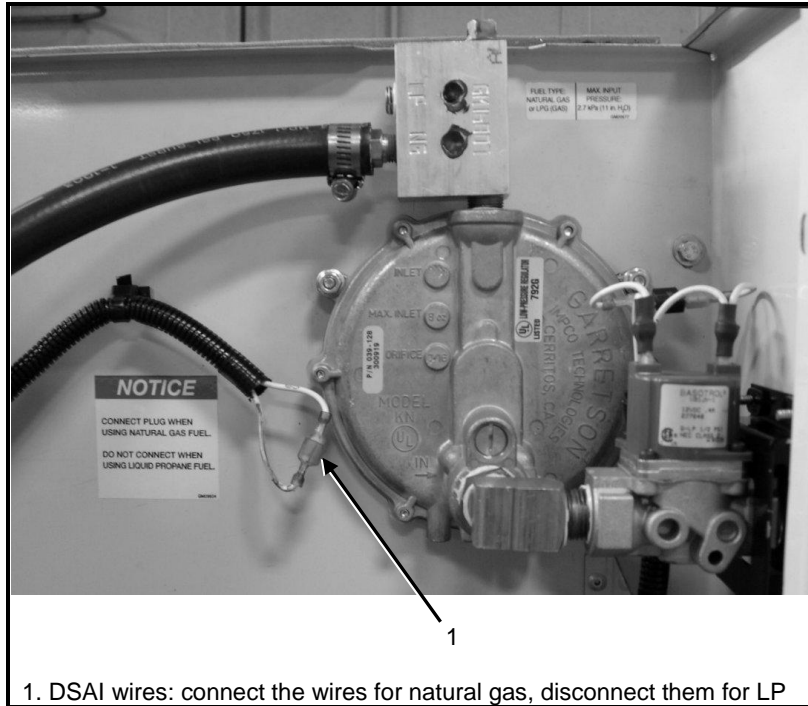

Figure 2.21: DSAI (Digital Spark Advance Ignition) advanced module wires, located in the air intake area on the generating set
11. For RES 13 EC and RES 12 TEC models only: connect all the wires of the DSAI (Digital Spark Advance Ignition) advanced module for natural gas. (Disconnect the wires for LP). See figure 2.21.
To convert the generating set from LP to natural gas, apply the same procedure, feeding the supply union from the LP opening to the natural gas opening. On the RES 13 EC and RES 12 TEC models, disconnect the wires from the DSAI module in LP mode. See figure 2.21.